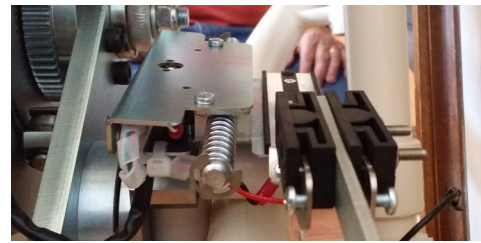

Figure 3-33
2. Align with the chassis. *See Figure 3-33.*